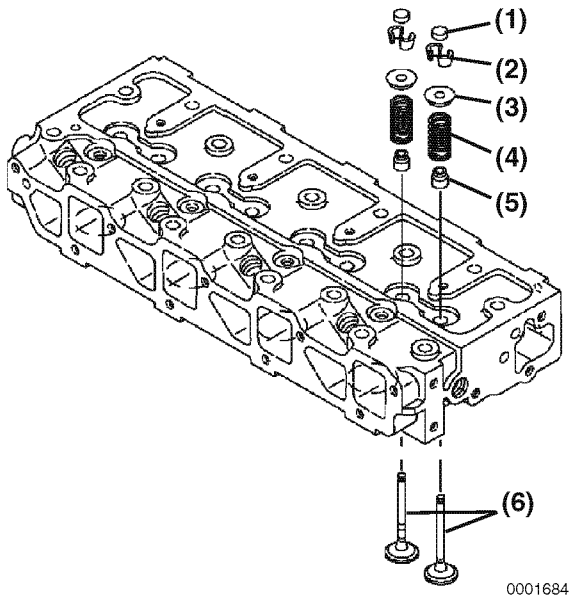

Figure 6-32
4. Place all the valves (**Figure 6-32, (6)**) in their proper location in the cylinder head.
5. Place the cylinder head on the workbench with the combustion side down to install the valve springs. Install the valve spring (**Figure 6-32, (4)**) and the spring retainer (**Figure 6-32, (5)**).
7. Insert the valve keepers (**Figure 6-32, (2)**) and slowly release the tension on the valve spring. Install the valve cap (**Figure 6-32, (1)**). Repeat the steps on all the remaining valves.